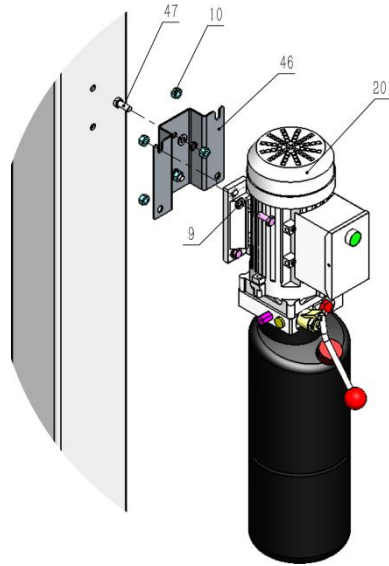

Fig.32
2. Install motor fixing bracket (See Fig. 32)